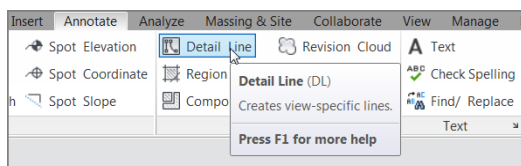

FIGURE 10.35: Click the Detail Line button on the Annotate tab.
2. Click the Detail Line button, as shown in Figure 10.35.